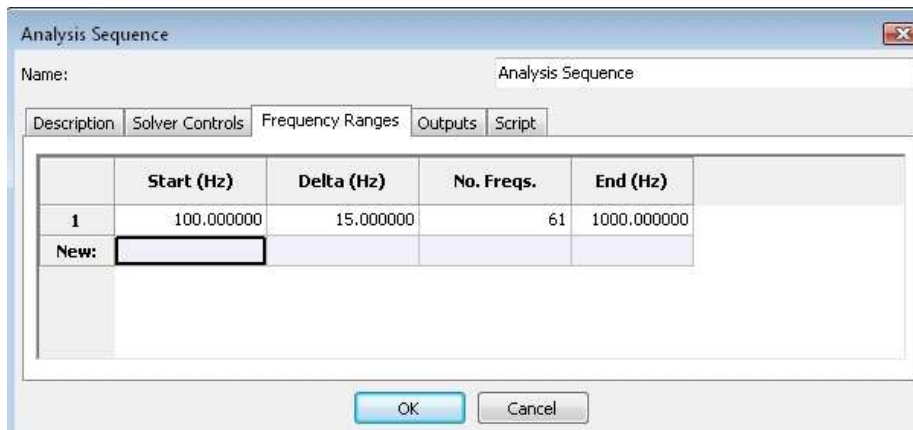

Figure 24: Set analysis frequencies.
- Move onto **Frequency Ranges** tab to specify analysis frequencies. Refer to Figure 24.